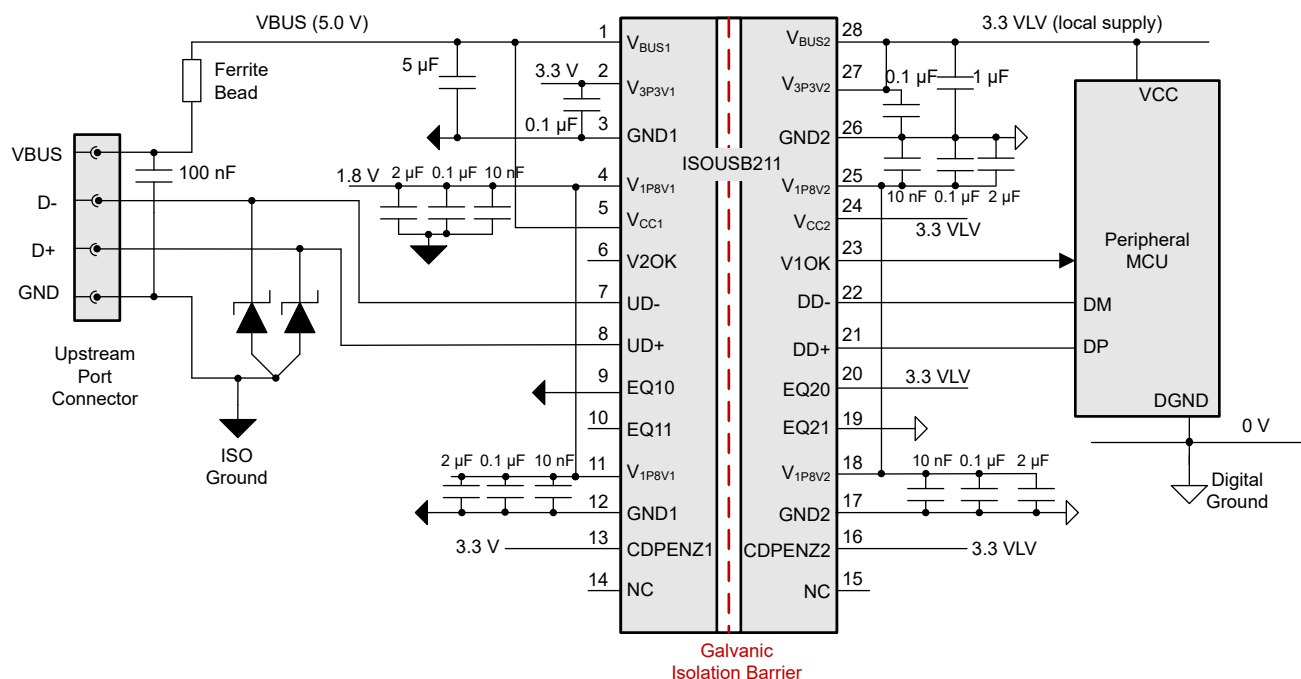
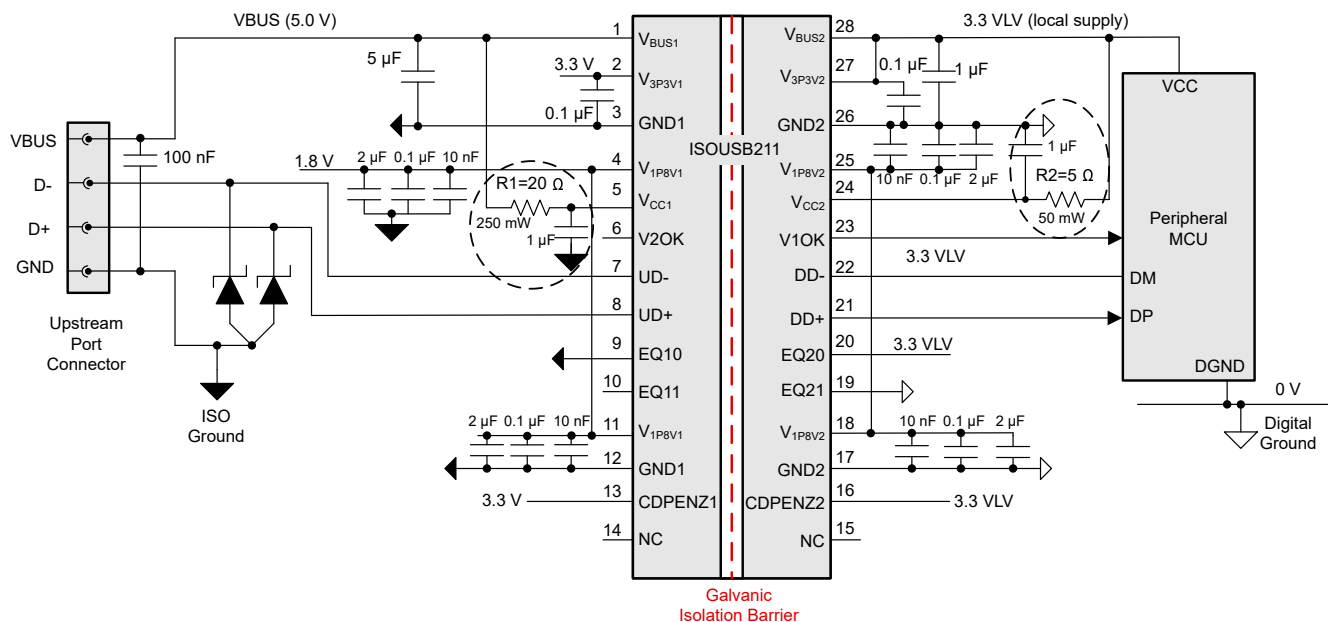

Figure 5-1. Using ISOUSB211 Without External 1.8V Supply
Figure 5-2. Using ISOUSB211 Without External 1.8V Supply - With Resistors in Series With V_{CCx} Pins
- In the case where no external 1.8V supply is present, adding series resistors to the VCCx pins reduces internal power dissipation (see Figure 5-2) and can be useful for cost-sensitive applications. For more information, see Operation Without External 1.8V Supply.
- On the connector side, where typically only the 5V VBUS is available from the USB port, using the internal LDOs is the practical choice as shown in Figure 5-1. However, this design has thermal limitations (see Operation Without External 1.8V Supply).
The device can run without any external 1.8V supply. In this configuration, the internal LDOs generate both 1.8V rails from the VCC pins, so a dedicated 1.8V source is not required. Figure 5-1 shows this configuration.
A simple trick to improve thermals without external 1.8V supply: Figure 5-2 shows a smart configuration, which helps in extending the ambient temperature by 10°C from 107°C (in Figure 5-1) to 117°C, without using external 1.8V supply. Extend the ambient temperature by adding a series 5Ω (50mW) resistor for external 3.3V connection to 1.8V LDO (V1P8V2) and 20Ω (250mW) resistor for external 5V connection to internal 1.8V LDO (V1P8V1). When choosing the resistor value, remember that the V_{CCx} voltage can be as low as 2.4V. In that case, an additional 1μF capacitors is needed on V_{CCx} pins.
The external resistors drop voltage and dissipate power, which helps reduce the power dissipation within ISOUSB211 and the corresponding temperature rise. Figure 5-1 shows a net change in internal power dissipation from 960mW to 728mW. This technique saves system cost by replacing two external DC-DC and LDOs with just two resistors and is useful in applications that prioritize cost over maximizing power dissipation and temperature range.